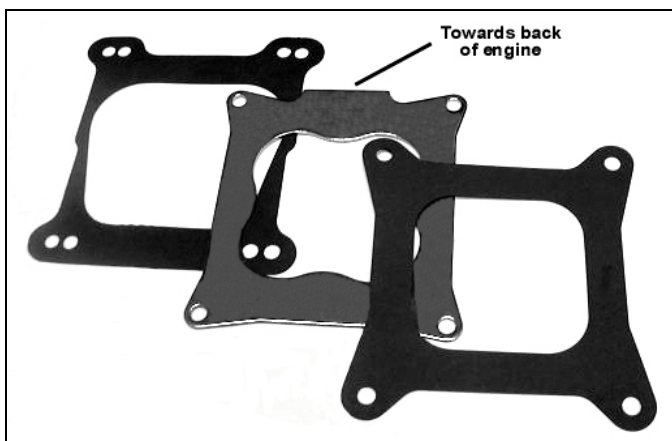

Figure 1
Spread-Bore Instructions: (Figure 1)
3. Place the sealing plate (steel) on top of the gasket, making sure that the tab area points toward the back of the engine (See Figure 1.)